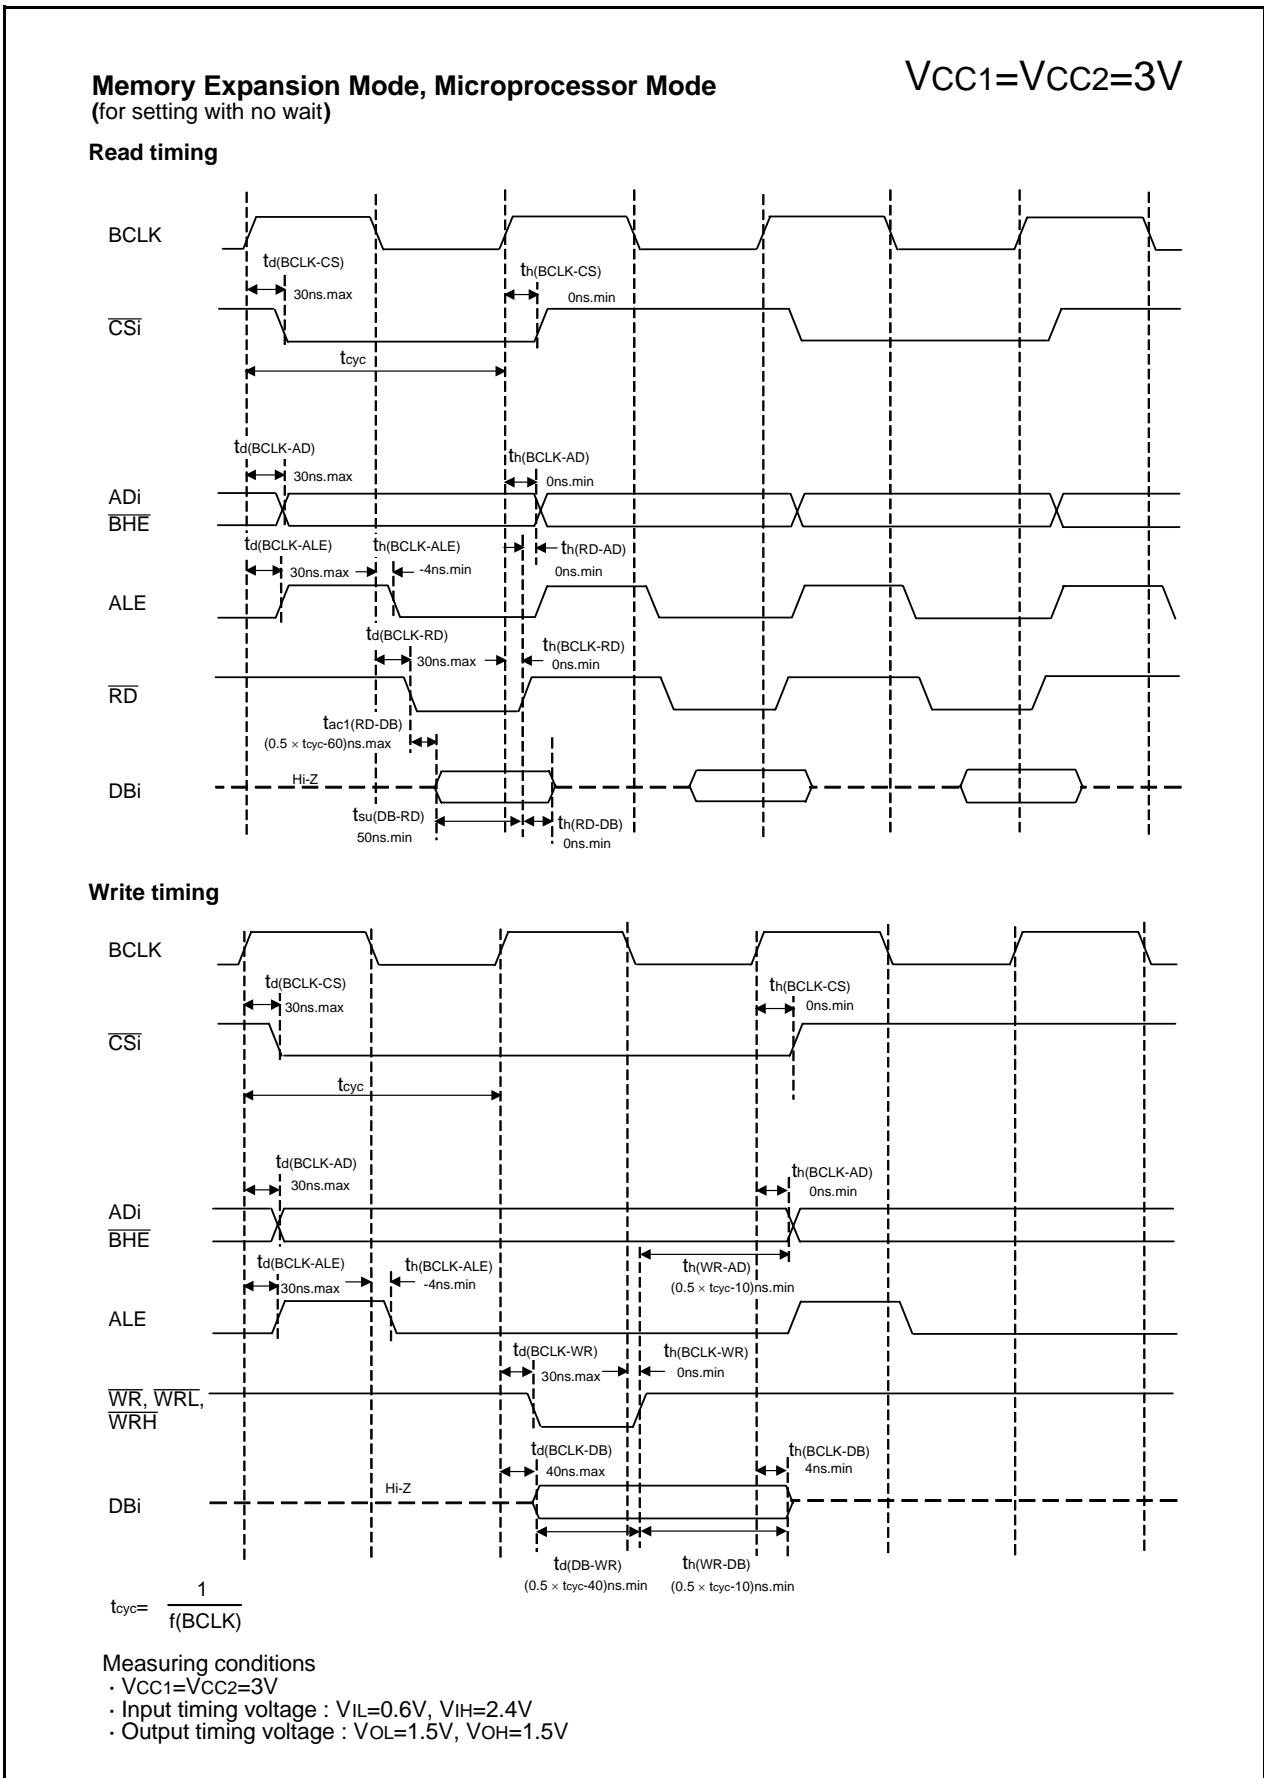

Figure 5.12 Timing Diagram (4)
44	Figure 5.12 Timing Diagram (4) is added.